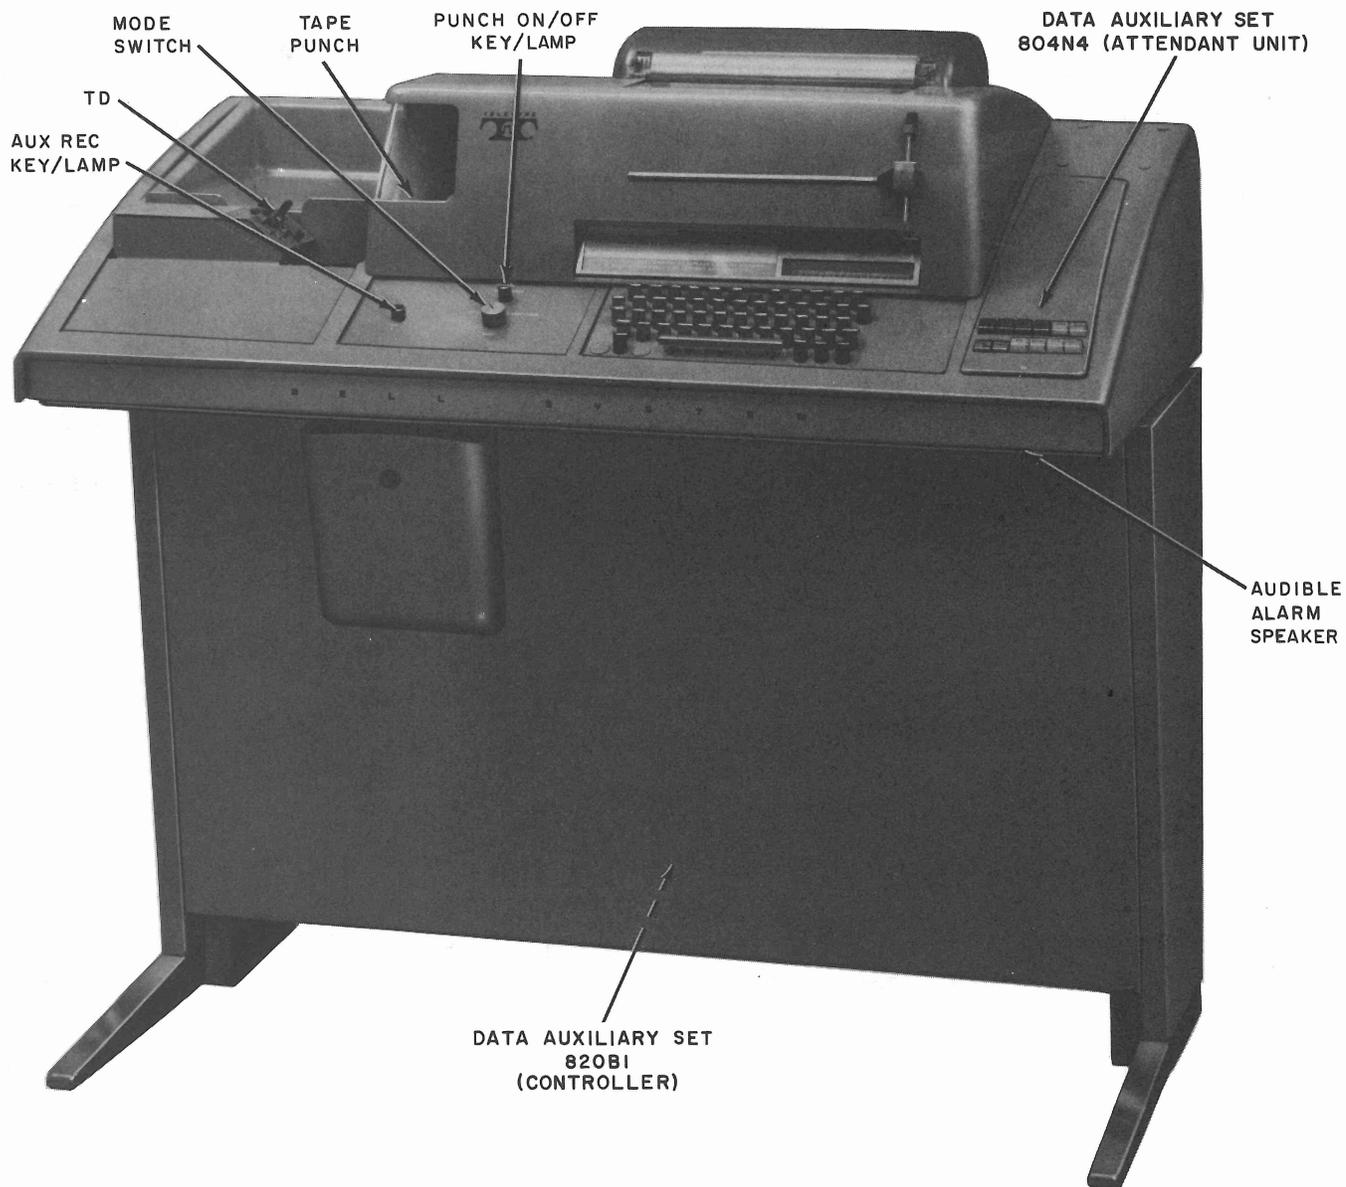
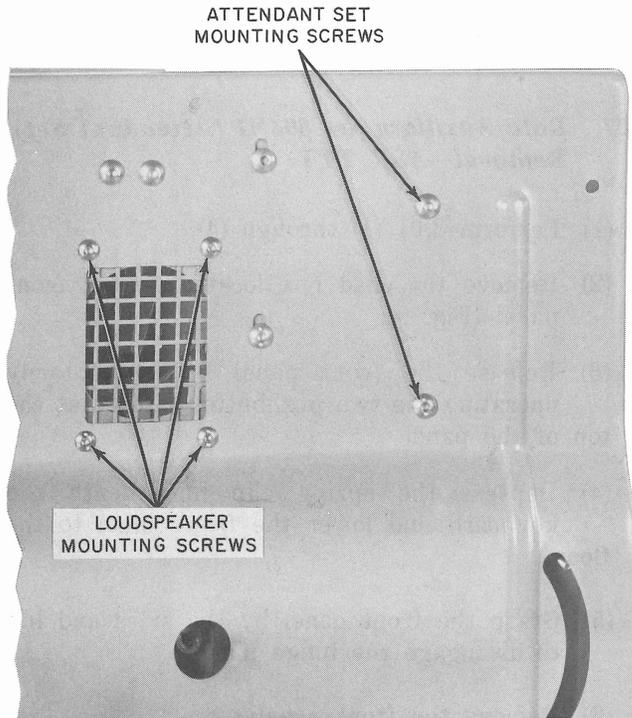
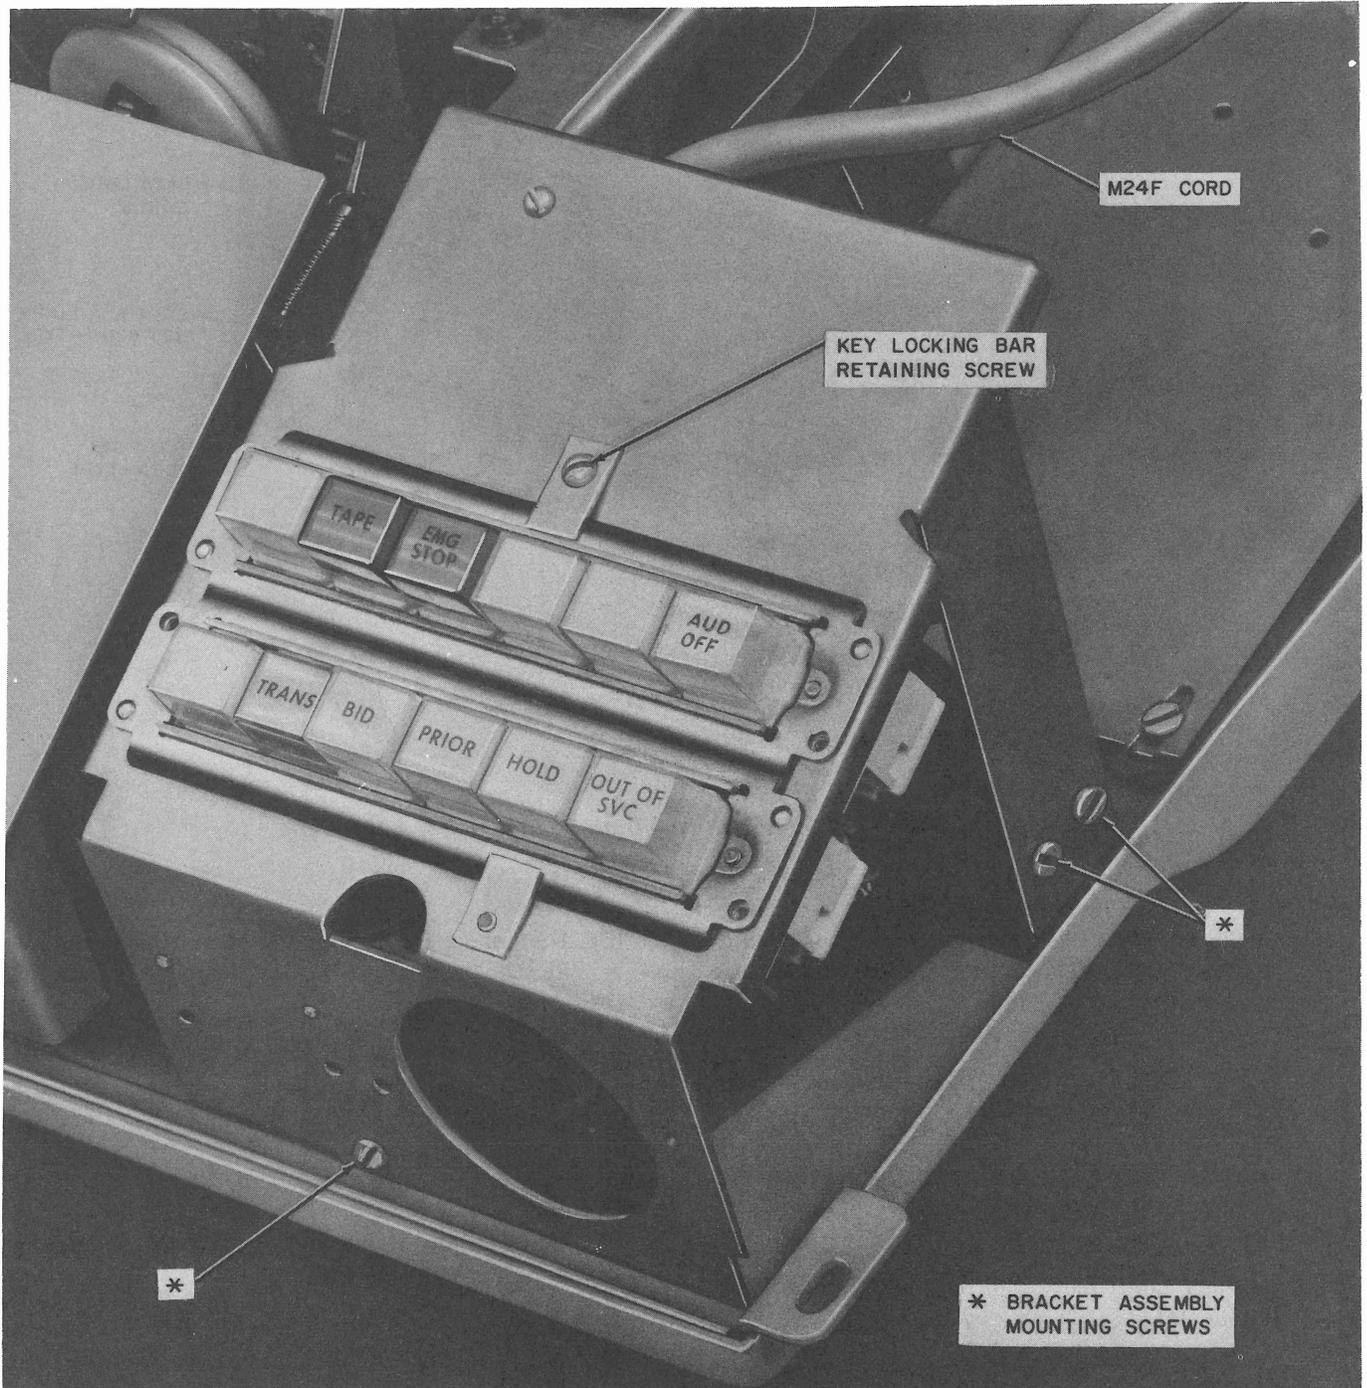

Fig. 9—35 ASR TTY Data Station
Fig. 12—35-Type TTY Data Station Attendant Set Mounting—Underneath View
Fig. 13—35 ASR TTY Data Station—Data Auxiliary Set 804N1
- (1) Operate the two cover latches on each side of the upper cover and open the upper cover to its partially open latched position (Fig. 9 and 10).
- (2) Remove the two screws that secure the faceplate to the lower cover and remove the faceplate by lifting vertically.
- (1) Perform 3.01 (1) through (4).
- (2) Remove the chad box located on the front panel (Fig. 9).
- (3) Release the front panel by momentarily operating the two pushbutton latches at the top of the panel.
- (4) Depress the spring clip underneath the keyboard and lower the front panel to the floor.
- (5) Grasp the front panel by the sides and lift to disengage the hinge pins.
- (6) Remove the front panel.
- (7) Disengage the attendant set lower bracket and mounting plate by removing two Allen screws (Fig. 12).
- (8) Disengage the speaker mounting bracket by removing four Allen screws.
- (9) Move the attendant set to the right to gain access to the left side of the bracket assembly.
- (10) Loosen, but do not remove, the five bracket assembly mounting screws on the attendant set (Fig. 13).
- (2) Disengage the attendant set lower bracket and mounting plate by removing two Allen screws (Fig. 12).
- (3) Disengage the speaker mounting bracket by removing four Allen screws.
- (4) Move the attendant set to the right to gain access to the left side of the bracket assembly.
- (1) If ASR TTY, remove the chad box located on the front panel (Fig. 9).
- (2) Release the front panel by momentarily operating the two pushbutton latches at the top of the panel.